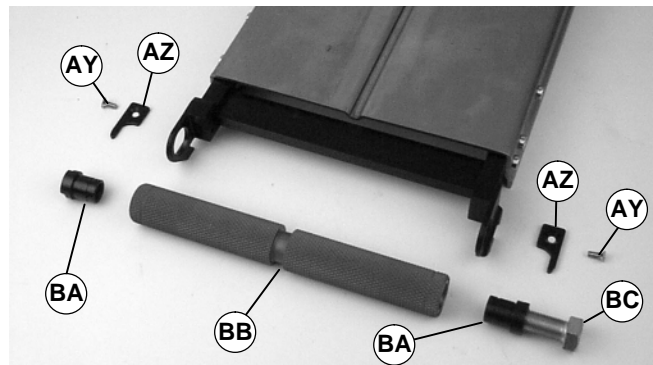

Figure 37
1. Remove the two (2) screws (AY of Figure 37).
2. Remove two clips (AZ).
3. Install bolt (part # 906-278☆) (BC of Figure 37) into bearing sleeve(s) (BA). Remove bearing sleeve(s) (BA).
**NOTE:** If retaining sleeve (BA of Figure 37) does not slide out: